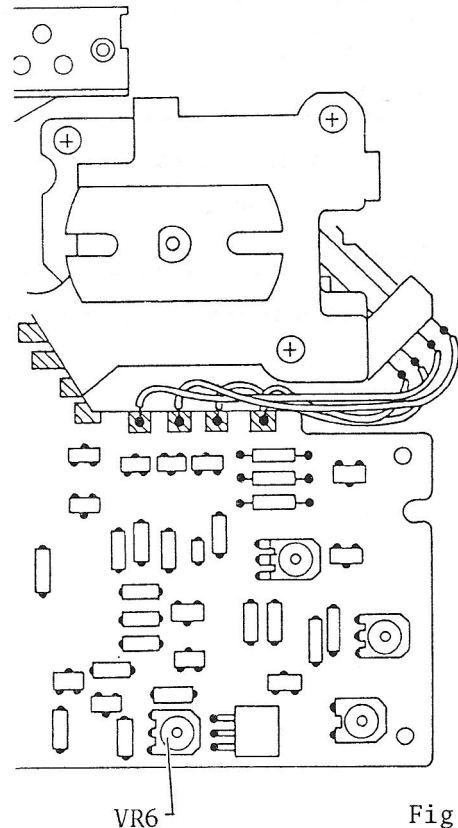

Fig. 130
1. Wire the Dummy battery, Tester and 6 V. Battery as shown in Fig. 130.